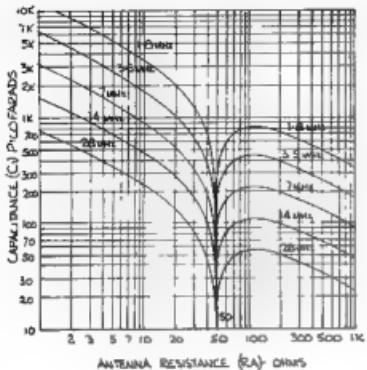
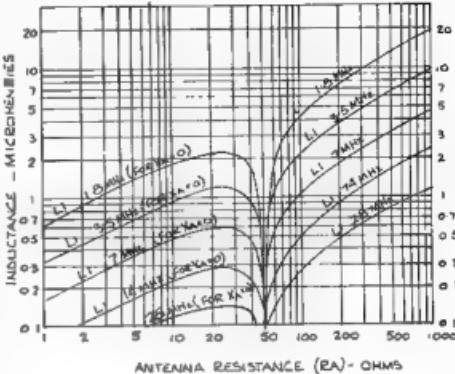
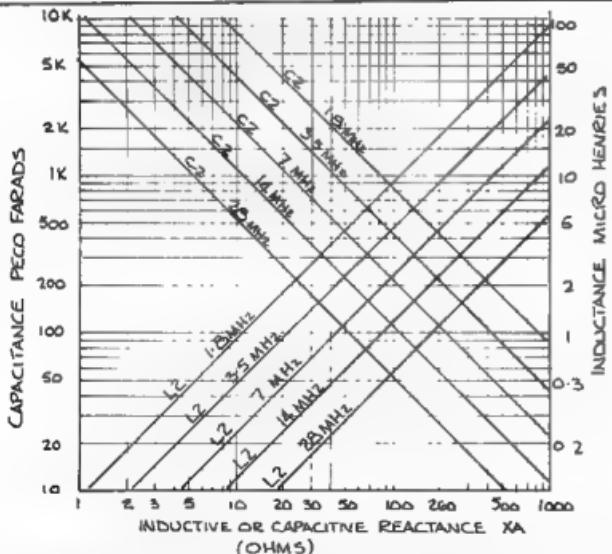

Figure 5: Matching Capacitance as a Function of Antenna Resistance.
Figure 6: Matching inductance as a Function of Antenna Resistance.
Figure 7: Matching Capacitance or Inductance as a Function of Reactance.
The writer set out to determine the range of values of $C1$, $C2$, $L1$ and $L2$ in the circuit (Figure 4) over the frequency and impedance ranges previously discussed. As many permutations were required, a computer program was set up to produce tables of results which were used to prepare the curves Figures 5-7. Figure 5 shows the capacitance of $C1$ plotted as a function of R_S for each of the principal amateur radio HF bands. The figure illustrates the very large capacitance required for low values of R_S , particularly on the low frequency bands. Figure 6 shows the inductance of $L1$ plotted as a function of R_S for each of the bands.
The value of phasing capacitance $C2$, or phasing inductance $L2$, can be read off as a function of X_A for each band from Figure 7. The very large value of $C2$ is also illustrated for low values of antenna inductive reactance (X_A).
3) Referring back to Figure 5, we see that the capacitance required in the matching circuit decreases as the antenna load resistance (R_A) is increased. The effect of parallel tuning is to present a new value of load resistance (R_A') higher than the value of R_A , and hence the size of the capacitor in the matching section can be reduced.
The curves of Figures 5 and 6 can be used to calculate the matching section components using parallel antenna phasing with the series antenna resistance (R_s) substituted by equivalent shunt resistance (R_s').
Reference to Figure 6 shows that 26 microhenries is more than sufficient for the matching circuit. Reference to Figure 7 shows that 26 microhenries can phase correct a capacitive antenna of $X_A = -300$ ohms at 1.8 MHz and $X_A = -600$ ohms at 3.5 MHz.